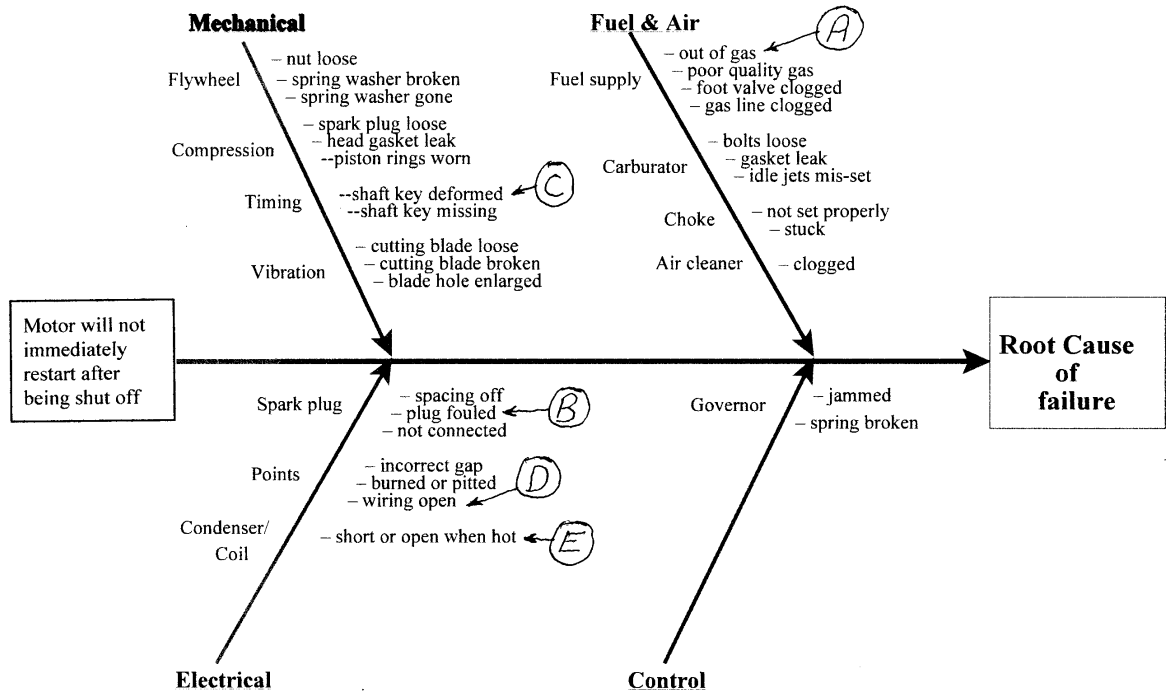

Figure 1
- Figure 1 shows an Ishikawa/Fishbone diagram with possible problems listed in Mechanical, Fuel & Air, Electrical, and Control categories. Most likely causes of failure have been marked A, B, C, D, and E in order of